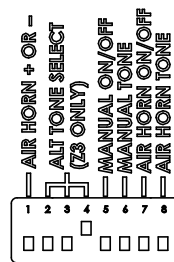

Figure 9
**Z3 MANUAL Operation** - To enable the MANUAL feature, move the appropriate DIP switch to the 'Up' position (see Figure 9, Position 5).
To configure the MANUAL tone, set the DIP switch according to Table 8 (reference Figure 9).
**Z3 AIR HORN Operation** - To enable the AIR HORN feature, move the appropriate DIP switch to the 'Up' position (see Figure 9, Position 7). If this feature is enabled, the Banshee will generate the Electronic Air Horn tone when the AIR HORN button on the Z3 Control Head is pressed.